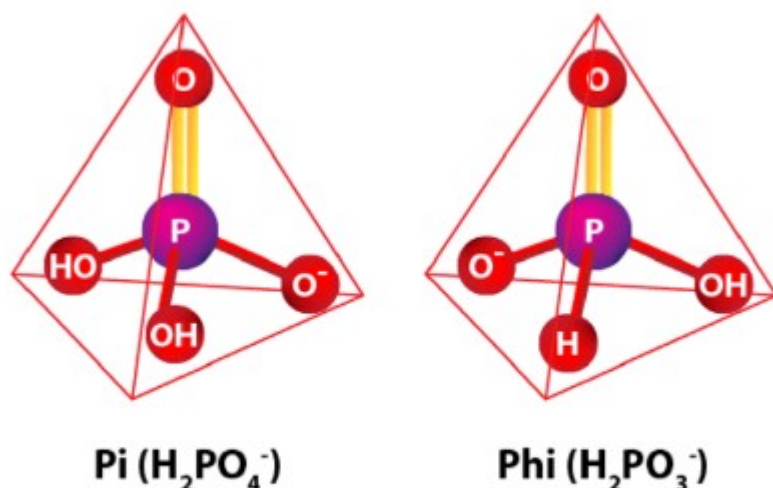

Fig. 1. Three-dimensional chemical structures of phosphate (H_2PO_4^- ; Pi) and phosphite (H_2PO_3^- ; Phi) forming tetrahedral structures.
Fig. 1. Efficacy of biocontrol agents [*Clonostachys rosea* (EH), *Serratia marcescens* (B15, Y15 and Y41) and *Trichothecium roseum* (H20)] and silicon in reducing the severity of powdery mildew of greenhouse grown zucchini 5 weeks after inoculation with *Podosphaera xanthii* in two experiments.